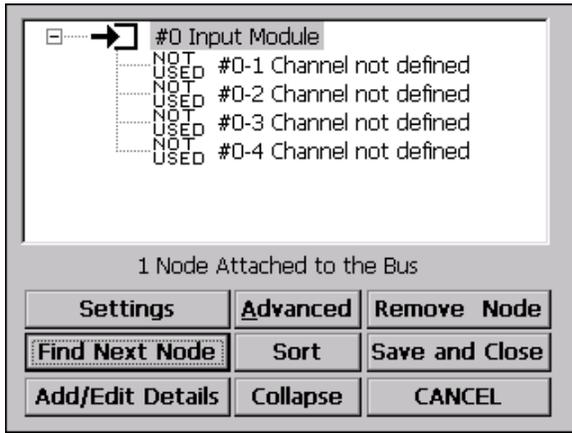

FIGURE 5.4 Input node open indicating its four undefined channels.
6. The panel will search the bus for the ONE node that has its ID switch ON. The node with the ID switch ON will appear in the menu screen with its 4 open channels "opened", in this case, the input node. Refer to figure 5.4.
9. The node in figure 5.4 appears with its 4 channels "open". Click on the COLLAPSE button to close the node, if desired.
□ Highlight the input node then click the ADD/EDIT DETAILS button. The following menu appears as indicated in figure 5.4. The ADD/EDIT DETAILS menu is identical to all four nodes.